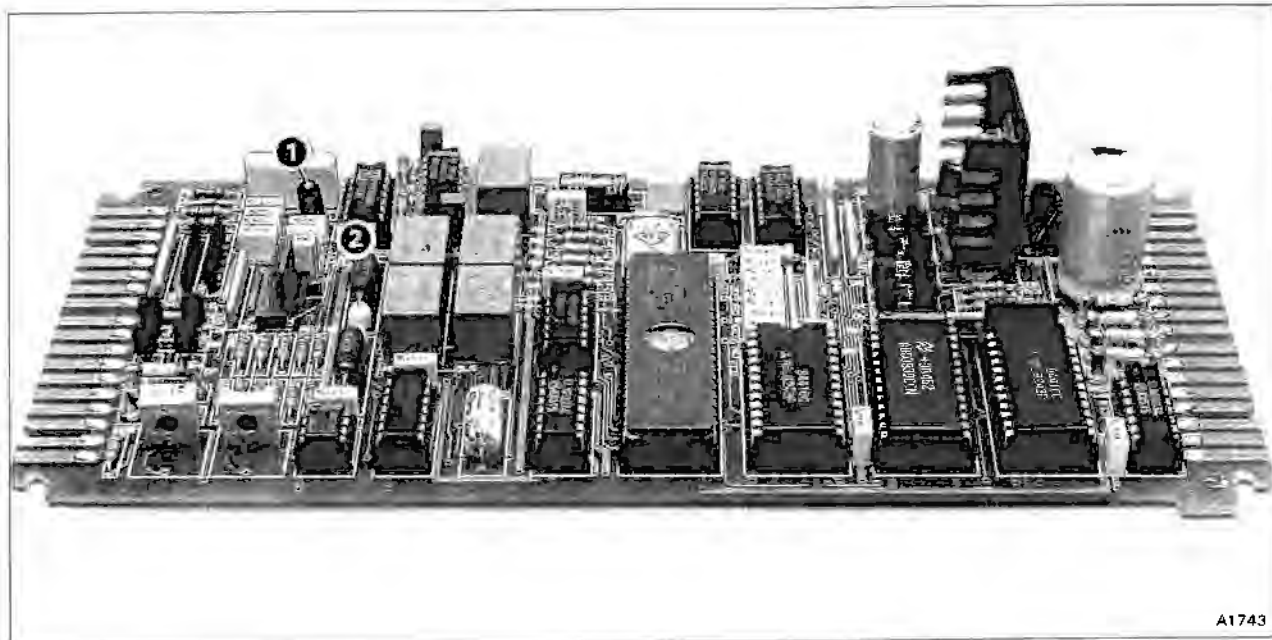

Fig. C4-5 Air conditioning micro-processor board
3. Fit the micro-processor board test pins link RH 9884 DET 2 or bridge the test pins (see fig. C4-5 item 2).
7. Rotate the lower blend flap potentiometer (see fig. C4-4 item 8) throughout the full range of its travel, noting the portion of travel for which the LED (light emitting diode) on the micro-processor board (see fig. C4-5 item 1) illuminates.